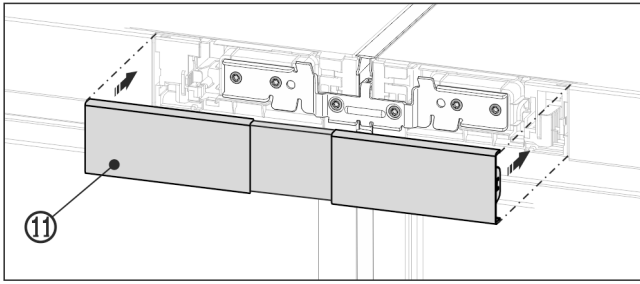

Fig. 23 Example illustration
- Snap the top cover Fig. 23 (11) onto the still open gap between the two control panel trims. Make sure that the outer sides of the cover form a flush finish with the control panel trims.